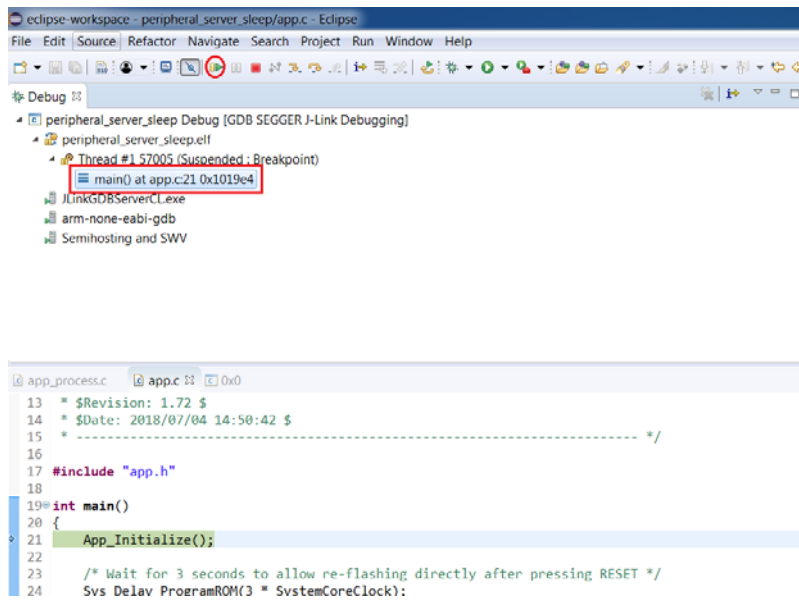

Figure 45. First Debug Session Perspective Before Starting Execution
5. Start the first debug session (which initiates target restart). Once the target is halted at `main`, resume the execution (see Figure 45).